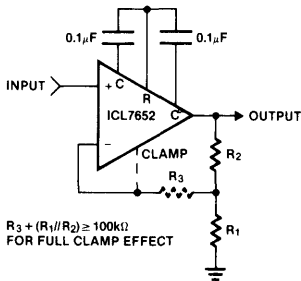

Figure 2. Non-Inverting Amplifier with (Optional) Clamp
*Use R3 to compensate for large source resistances, or for clamp operation (see Figure 2)
Clearly the applications of the ICL7652 will mirror those of other op-amps. Thus, anywhere that the performance of a circuit can be significantly improved by a reduction of input-offset voltage and bias current, the ICL7652 is the logical choice. Basic non-inverting and inverting amplifier circuits are shown in Figures 2 and 3. Both circuits can use the output